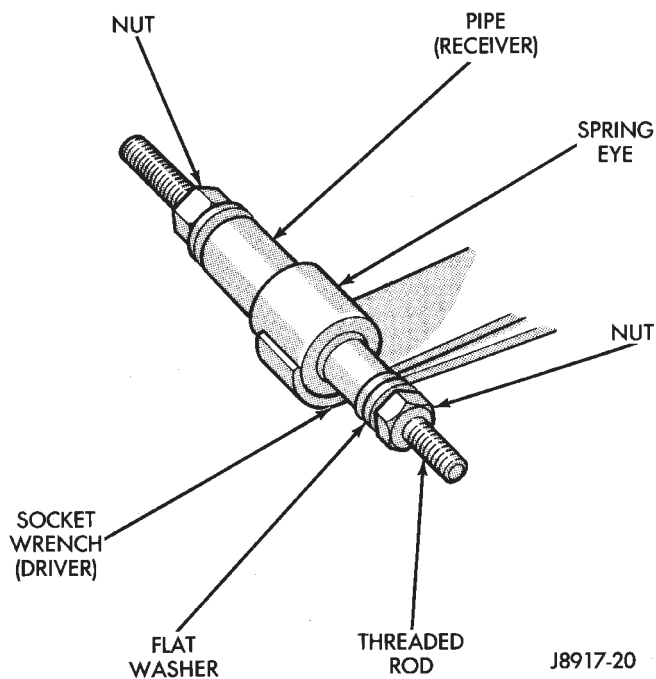

Fig. 2 Spring Eye Bushing Removal
(1) Assemble tools shown (Fig. 2). Tighten the nut located at the socket wrench end of the threaded rod until the bushing is forced out.